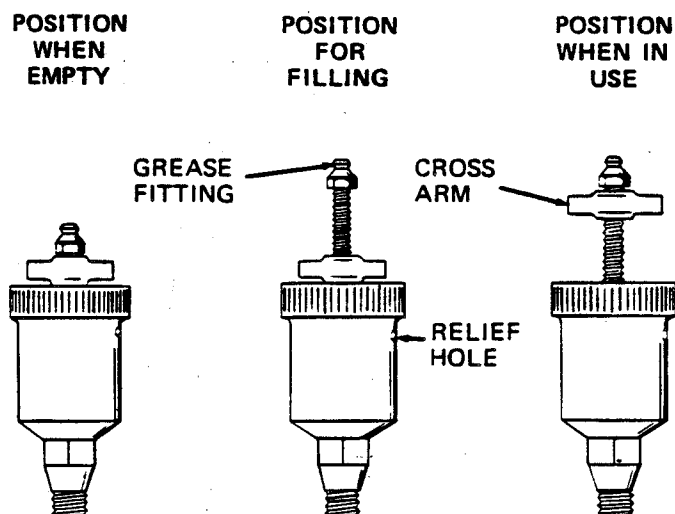

Figure 4. Automatic Lubricating Grease Cup
Turn the cross arm on the automatic lubricating grease cup (6) clockwise until it rests against the cover (see Figure 4). This will prevent the grease from escaping when the impeller is removed.
Before starting the pump, fill the grease cup through the grease fitting with a good grade of No.2 pressure gun grease until grease escapes from the relief hole. Turn the grease cup arm counterclockwise until it is at the top of the stem; this will release the spring to apply grease to the seal (see Figure 4).